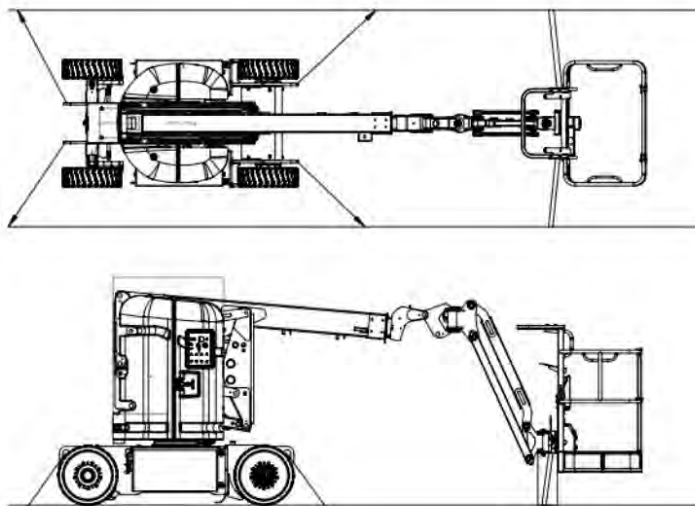

Figure 24 Tie-down points
5. Anchor down MEWP to transport surface using tie-down points (refer to Figure 24).